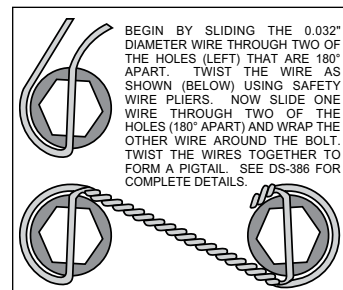

Figure 3. Safety Wire Diagram
- Orient the rotor (3) and the hat (4) as shown in Figure 1 and Photo 3. Attach rotor to hat using bolts (6) and washers (5). Apply red *Loctite*® 271 to the bolt threads and torque to 155 in-lb using a criss-cross pattern. For an added measure of security, the bolts may be safety wired using standard 0.032 inch diameter stainless steel safety wire as shown in Figure 3. Please refer to Wilwood's data sheet DS-386 (available at www.wilwood.com/Pdf/DataSheets/ds386.pdf) for complete safety wire installation instructions.